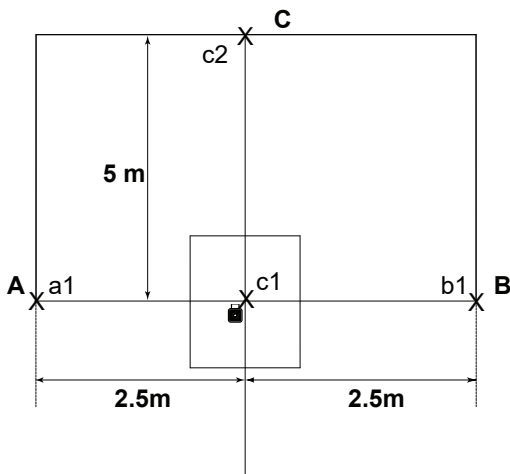

Figure 7
- 4) Mark the point **c2** on the front wall **C**, in the center of the vertical beam (see figure 7).